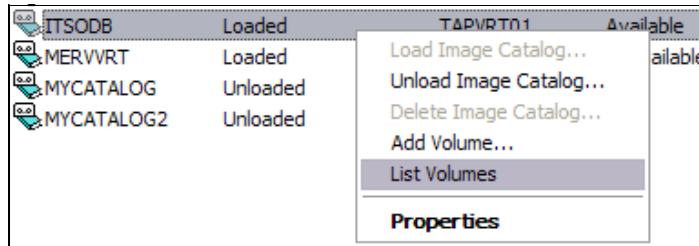

Figure 8-17 List volumes
1. Right-click the image catalog and select **List Volumes**, as shown in Figure 8-17.